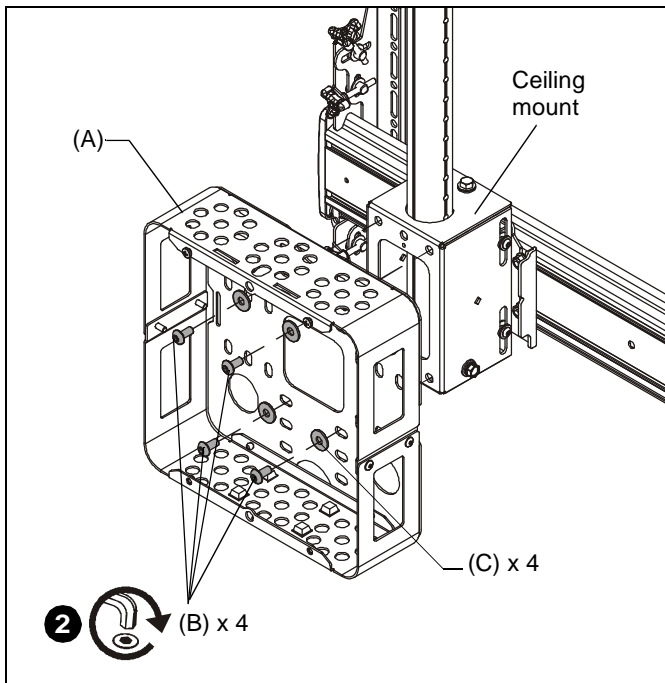

Figure 8
- Attach FCA510/FCA515 (A) to back of ceiling mount using four 5/16-18 x 1/2" button head screws (B) and four 5/16" flat washers (C) installed into back of ceiling mount. (See Figure 8)